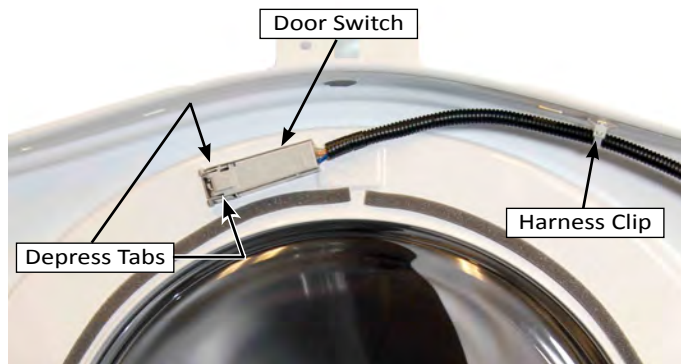

Figure 4
9. Detach harness clip(s) from front panel. Depress the tabs on each side of the door switch and feed the switch assembly through the opening (see Figure 4).